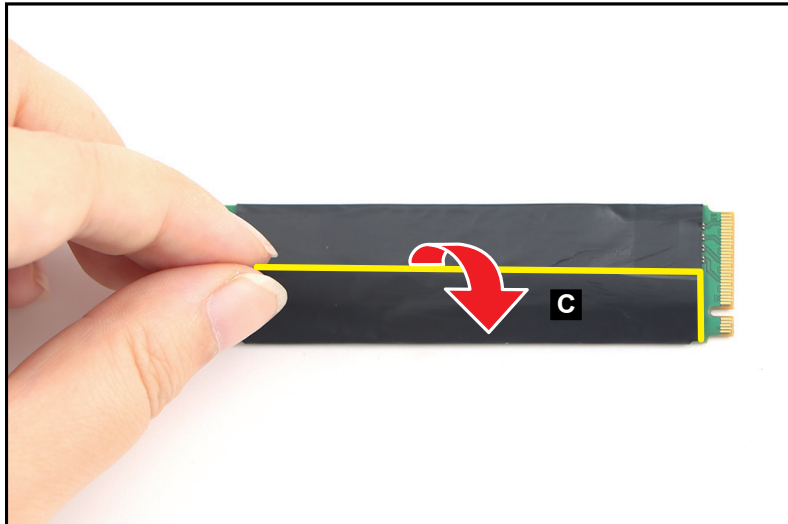
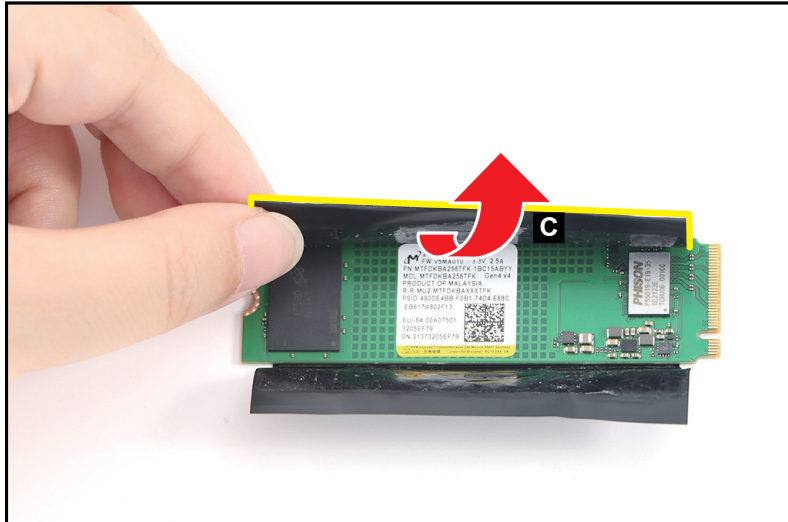

Figure 1-12. SSD Module Removal
Figure 1-13. SSD Module Removal
5. By holding the upper edge of the copper foil with mylar (C), unfold and detach it from the SSD module as shown in Figure 1-12 and Figure 1-13 but DO NOT remove yet!